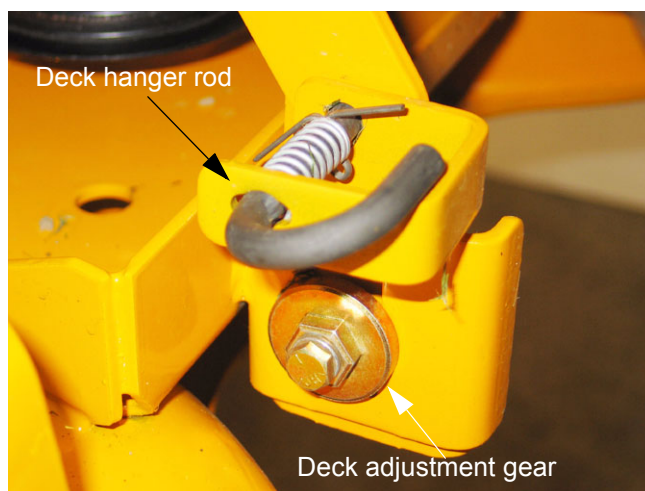

Figure 3.1
- 3.1. Release the deck J pins from the rear hanger arms. See Figure 3.1.